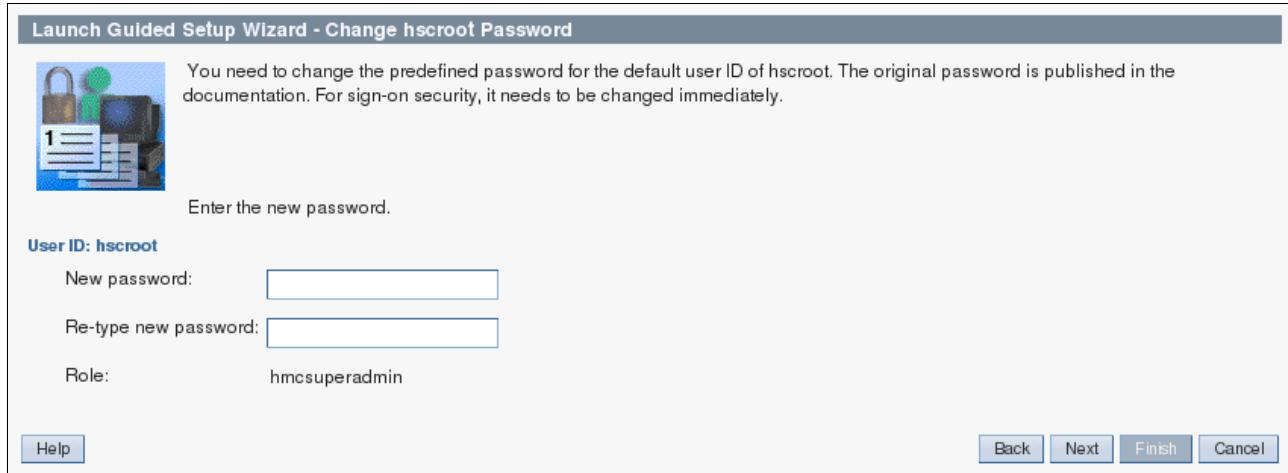

Figure 3-82 The hscroot password change panel
11. Although you can change the hscroot password in the next panel (Figure 3-82), do not change it now for this example. You can change the hscroot password later. Click **Next**.